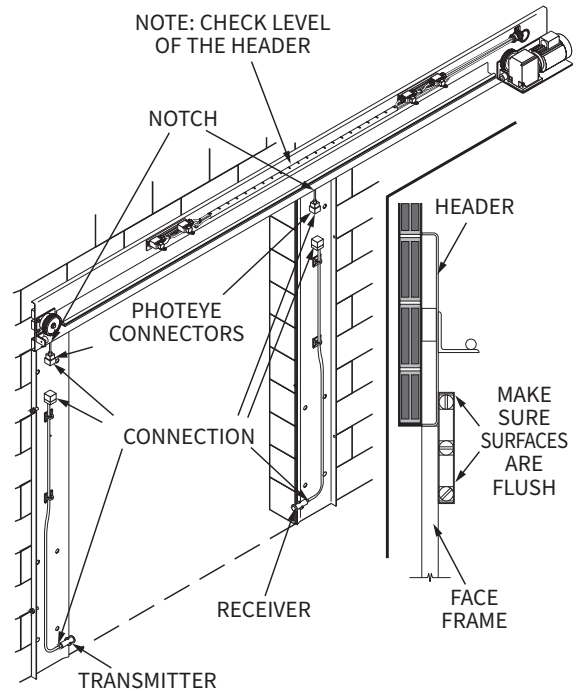

Figure 6: Installing Wall Clips to Opening
2. Route photoeye cables on back of header and through the grommets keyholes on the bottom edge of the header (Figure 6).
4. Install the face frame cover to the clip and secure with two screws provided (Figure 6).
2. Connect the photoeyes in the side frame to the photoeye cables coming out of the bottom of the header. Use a cable tie to connect the 2 cables (Figure 6).